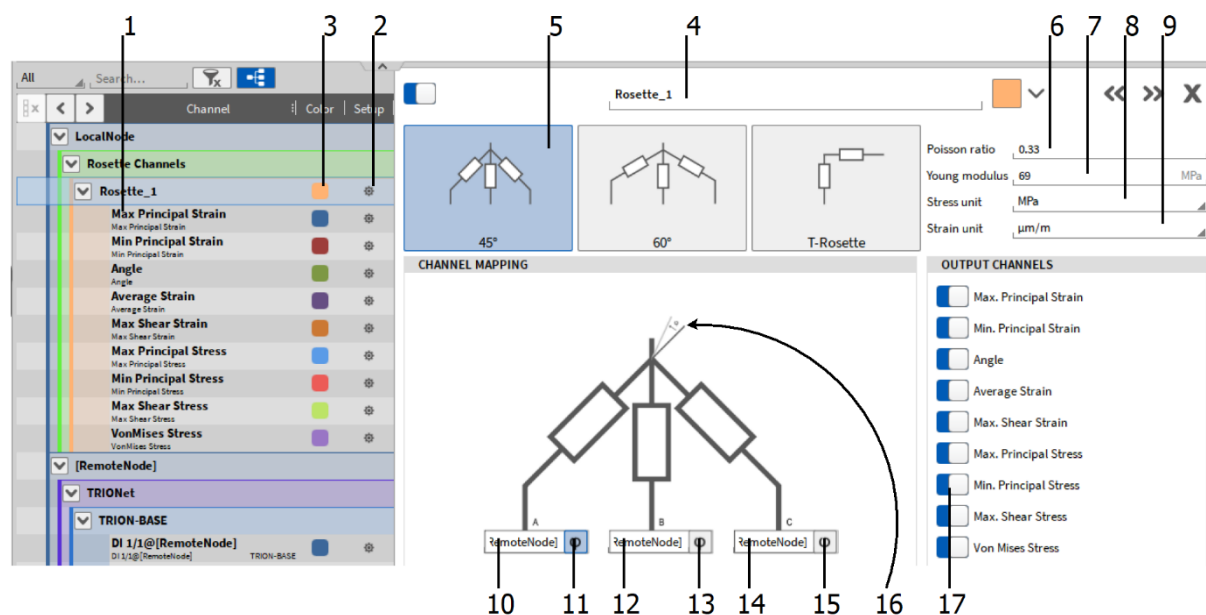
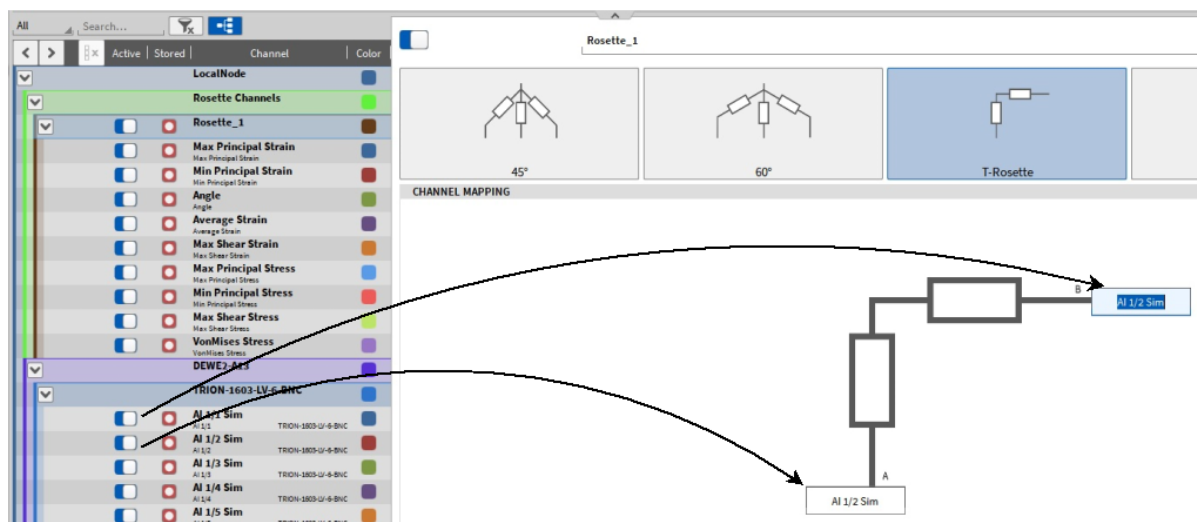

Fig. 7.110: Rosette channel setup – overview
Fig. 7.112: Channel assignment in the rosette channel setup
For creating a Rosette channel, the user must click on the *Add* button in the lower left corner (marked red in Fig. 7.52) and a window will appear (see Fig. 7.109). To create a Rosette channel, select *Rosette*. After clicking on the OK button, a Rosette main channel (*Rosette_1* in Fig. 7.110) with its Sub channels (*Max Principal strain* to *VonMises Stress* in Fig. 7.110) is added to the channel List. A click on the gear button of the main rosette channel will open the Rosette settings to perform changes afterwards (see Fig. 7.110).
The channel assignment can be edited after creating the Rosette calculation in the Channel setup of the main channel (see ⑩ in Fig. 7.110) by dragging and dropping the desired channel from the Channel List on the left-hand side to the individual input channel of the rosette calculation (see Fig. 7.112).
The sub channels (see ⑪ in Fig. 7.110) resulting from the rosette calculation have a Channel Setup that can be accessed via the Gear Button in the Channel List as well. But only the Channel scaling can be edited there.